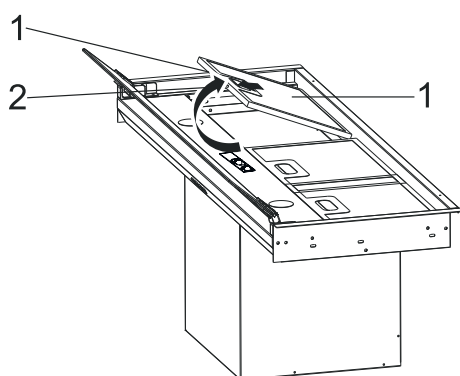

Fig. 11
1. ➔ Remove the appliance package and place the aluminium filters facing upwards. (Fig. 11).
Press the aluminium filter latch (Fig. 11/1) and pull upwards (Fig. 11/2) to remove.